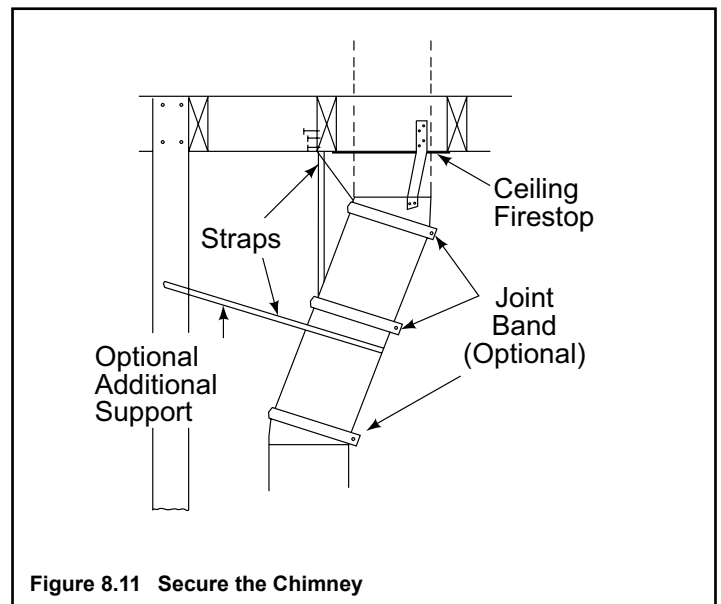

Figure 8.11 Secure the Chimney
When offsets and returns are joined to straight pipe sections, they must be locked into position with the screws provided* (outer only), using the predrilled holes. To prevent gravity from pulling the chimney sections apart, the returns and the chimney stabilizers have hanger straps for securing these parts to joists or rafters. See Figure 8.11 on page 49.
- Refer to Figure 8.11.